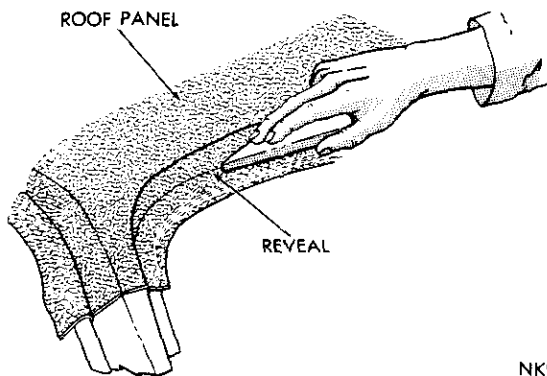

Fig. 4—Positioning Cover in Window Reveals
(6) When the cement becomes tacky position cover on roof panel.
(7) Repeat steps 5 and 6 for the opposite side.
(8) Using a new paint roller, pressurize cover to the roof working from center area toward drain troughs.
(9) Press cover into windshield and rear window reveals using a dull pointed fibre tool (Fig. 4).
(10) Starting at top center, secure cover to windshield reveal using staples spaced 1-1/2 inches apart